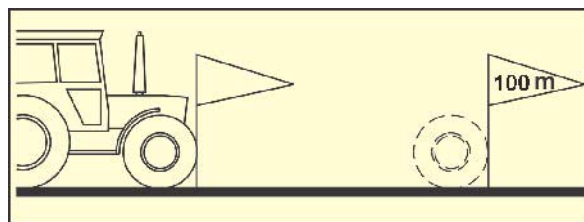

Fig. 10
- On the field, measure a calibration distance of exactly 100 m. Mark the start and end point of the calibration distance (Fig. 10).